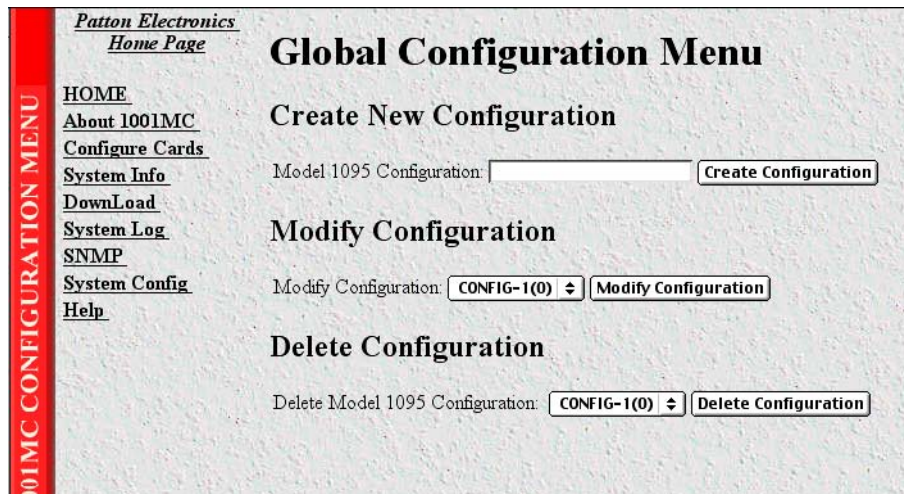

Figure 62. Global Configuration Menu page
1. Select a template from the Delete Configuration pop-up menu (see figure 62).